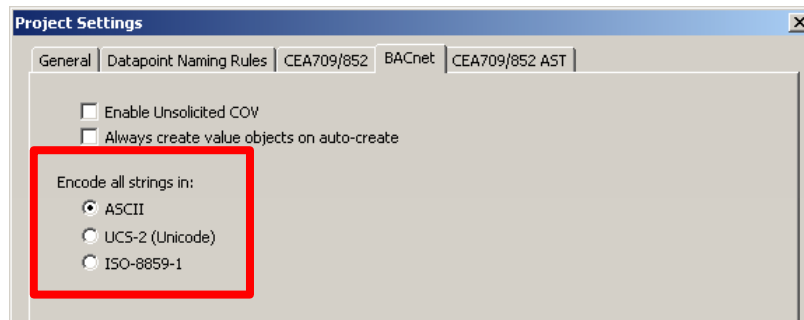

Figure 111: BACnet Project settings dialog.
3. Put a check mark either on ASCII (default), UCS-2 (Unicode, e.g., for Japanese), or ISO-8859-1 (for Western European languages), as indicated by the red rectangle in Figure 111.